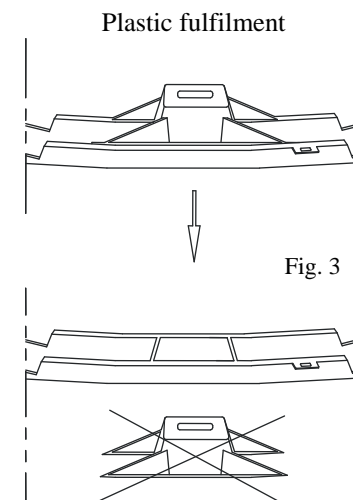

Fig. 3
3. Cut off the fragment from the plastic fulfilment (see fig. 3).